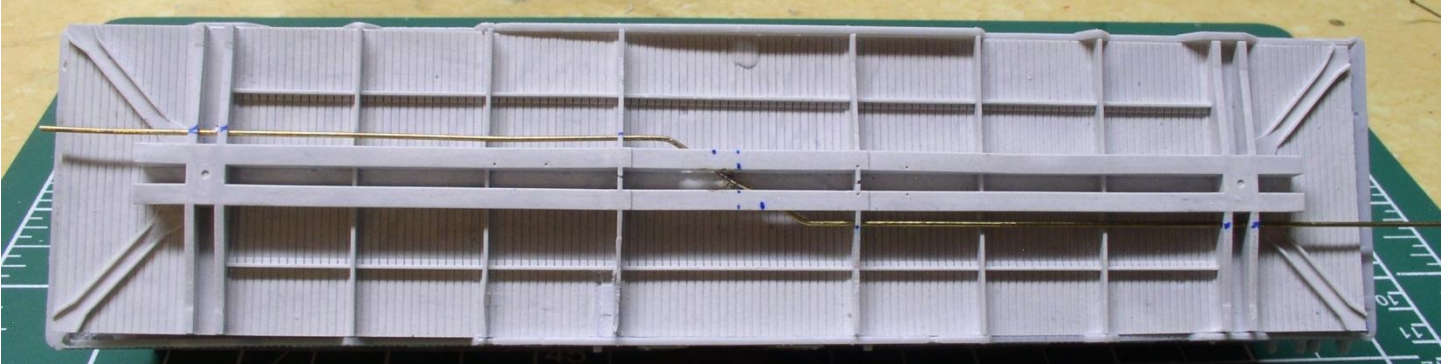

Figure U5
5. Bend the 0.032" brass rods about 5/8" from one end to a 25° angle. If all works as hoped, you should be able to carefully slide the brass rods into the holes in the crossbeams and the bolster and push the angled ends into the slots so they meet. Note that the rod goes over the smaller crossties. Leave about a full size 1/16" overlapping the underframe at the ends. If the holes or slots are not aligned enough you can carefully heat the brass rod 00 to the offending hole and adjust it as the resin softens. Don't overdo the heat or you will have a larger hole than you need. See Figure U5. See Figure U8a to see the whole Brake Pipe.